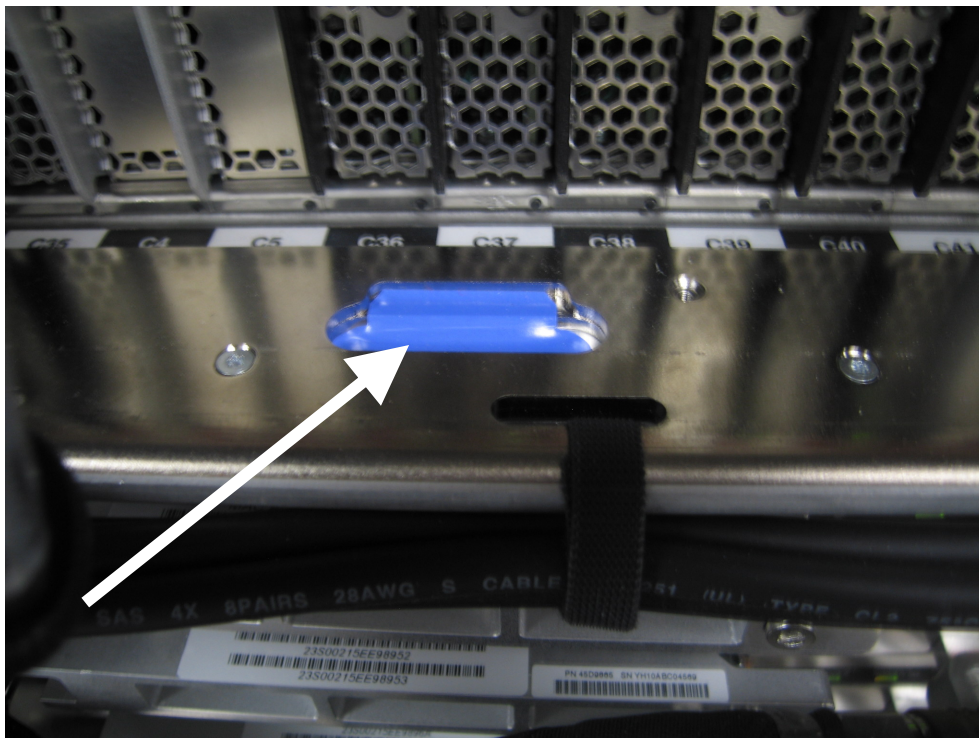

Figure 41 Blue-purple Recessed Touch Points
STEP 38 Grasping the blue-purple recessed touch points on the front DE cable tray, pull the DE out of the frame a few inches until the front cable tray is just above the first Lift Tool roller (see Figure 41).